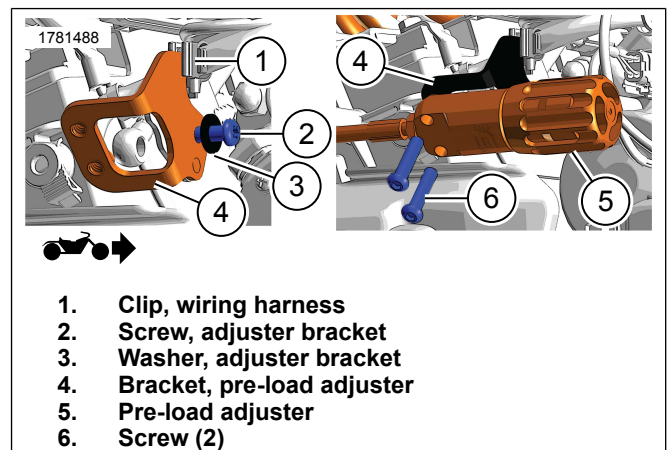

Figure 4. ABS Module Bracket and Pre-Load Adjuster
2. See Figure 4. Install side cover (2), reservoir clamp (1), screws (4) and spacers (3).
3. Tighten screws (4).